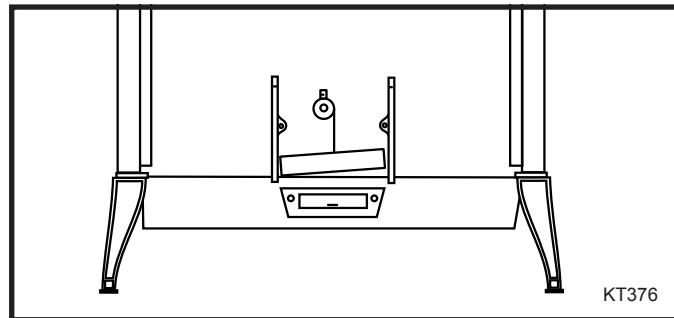

Fig. 5 Rear view of stove.
14. Behind the steel plate, there is a secondary probe assembly (Item 20). This consists of a probe and a bi-metal coil secured by a Phillips screw. (Fig. 5) There is a slender steel rod between the end of the coil and a pivoting valve plate (Item 19). Remove the Phillips screw and pull the coil and probe partway out of the stove back. When the probe is halfway out of the stove back (about 1" showing), remove the slender rod from the tab at the end of the coil. Leave the rod hanging from its tab on the secondary valve. Leave the secondary valve, Item 19, in place.
11. Install the new combustion throat hood (Fig. 5, item 10). Slide a protruding pin on one end fully onto the corresponding support bracket on the upper fireback, then slide the pin in on the trailing end of the hood onto the other support bracket. Center the hood left-to-right on the fireback, and let its lower edge hang against the lower fireback.
13. Attach the slender steel rod to the tab at the end of the bimetal coil, part of the new secondary probe assembly. Carefully press the secondary probe into place through the hole you made in the refractory chamber. Do not jam the probe into place, as this can break pieces off the refractory chamber. Secure the probe with the Phillips pan-head bolt you removed in disassembly step 14. The correct positioning for the probe is shown in Figure 5. Note the tab on the end of the coil is in the 4 o'clock to 5 o'clock position, when the stove is cold.